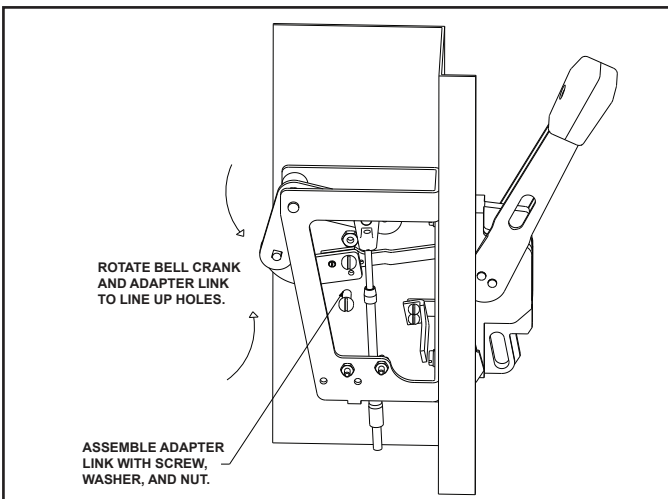

Fig. 1-5 Assembly of Adapter Link to Actuator Link.
5. Rotate the bell crank towards the handle and rotate the handle to the ON position. Align the adapter link and attach it to the actuator link using the 1/4 -20 pan head screw and nut. See Fig. 1-5.